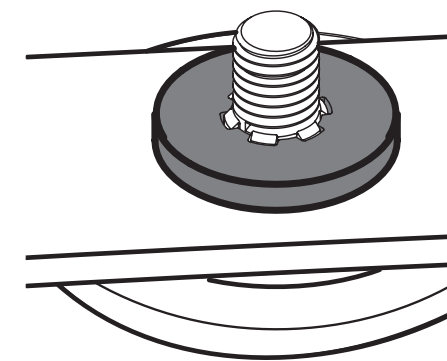

Figure 4-23
3. Carefully place the flat washer on the spindle shaft. Be sure that the splines at the base of the spindle shaft threads line up with the washer splines. See Figure 4-23.